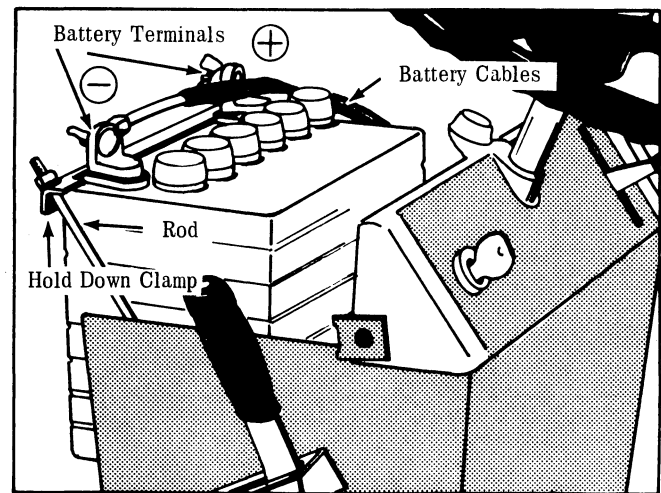

Figure 2
3. Remove the battery from the tractor (See Fig. 2) and place it on a wooden bench or a piece of wood or plastic. DO NOT SET THE BATTERY ON A CONCRETE FLOOR.
7. Insert filler caps into filler holes and place battery on shelf in front of the instrument panel. BATTERY TERMINALS MUST BE AS SHOWN IN FIGURE 2.
9. Next, connect the two battery cables to the battery terminals (See Figure 2). The cable leading to the ignition components of the engine is the "hot" cable (red in color) and should be attached to the positive (+) battery terminal in the following manner: Remove the wing nut from the large carriage bolt provided and place cable eye onto threads of the bolt. Secure cable eye in place with the large wing nut.